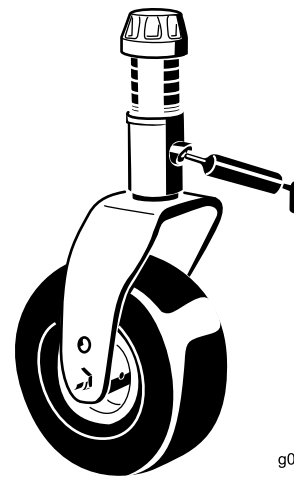

Figure 69
- 1 caster-fork-shaft bushing (Figure 69)